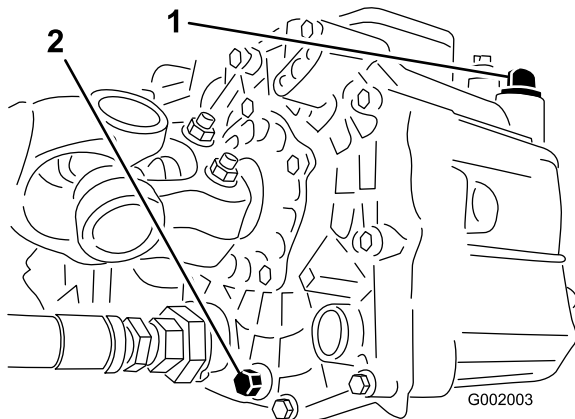

Figure 62
- Remove the drain plug from the side of the reservoir and let the hydraulic fluid flow into the drain pan (Figure 62).